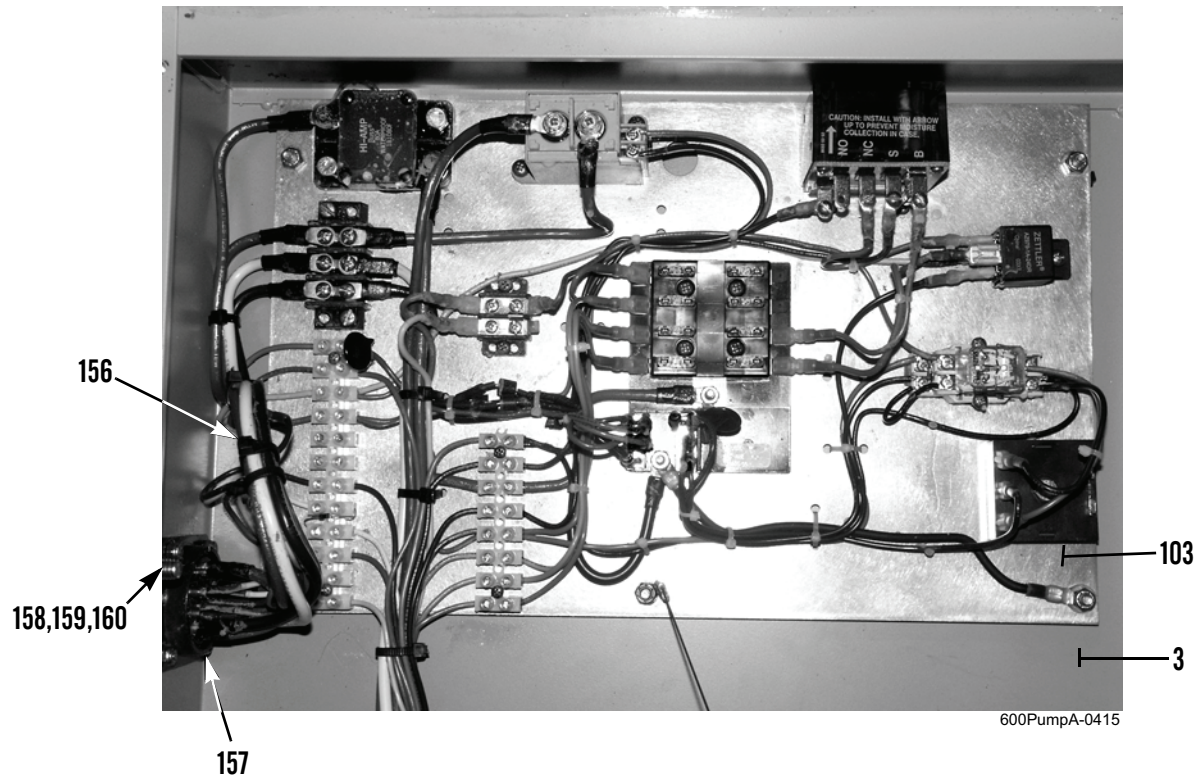

Figure 40. Connector Assembly.
1. Disconnect each wire of connector wiring harness (Figure 40, Item 156) from components on inside circuit board panel (Figure 40, Item 103).
2. Remove four locknuts (Figure 40, Item 158), screws (Figure 40, Item 159), washers (Figure 40, Item 160), and connector (Figure 40, Item 157) from control panel box (Figure 40, Item 3). Discard locknuts.
1. Install connector (Figure 40, Item 157) on control panel box (Figure 40, Item 3) with four washers (Figure 40, Item 160), screws (Figure 40, Item 159), and new locknuts (Figure 40, Item 158).
2. Connect each wire of connector wiring harness (Figure 40, Item 156) to components on inside circuit board panel (Figure 40, Item 103).